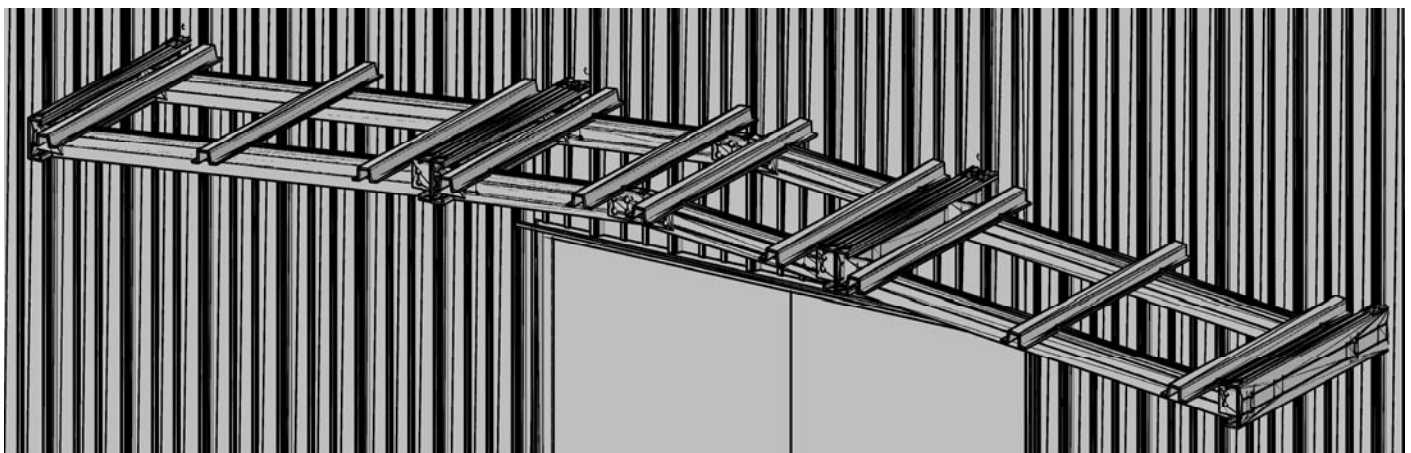

FIGURE 12
- b. **Hat Purlins** - Attach (6) Hat Purlins (S-005-GV) to the Gable Channels using $\frac{1}{4}$ " bolts/nuts. If necessary, use a channel lock pliers to squeeze the Hat Purlins to allow the holes to line up. See **Figure 12** for a completed FLS frame. Purlins are not punched symmetrically, shorter cantilever toward wall.